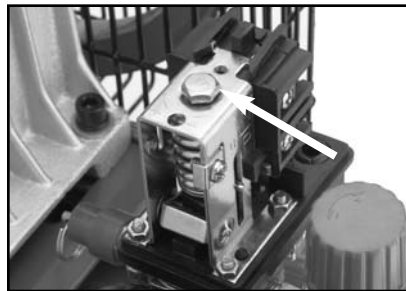

Figure 9. Pressure Regulator.
5. Turn the pressure adjustment bolt (**Figure 9**) a half turn clockwise to increase the tank pressure and a half turn counter-clockwise to decrease the pressure.